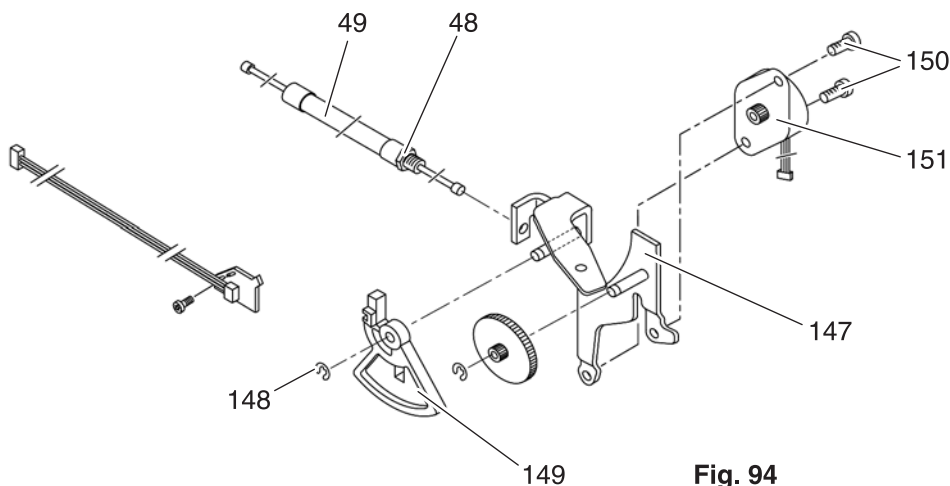

Fig. 94
- Release locking nut 48 (fig. 94).